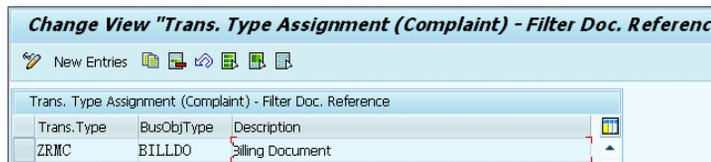

Figure 7.91 Assign Business Object Types to Transaction Types
- Assign the complaints business object type to the transaction type. You can do this by navigating to CUSTOMER RELATIONSHIP MANAGEMENT • TRANSACTIONS • SETTINGS FOR COMPLAINTS • INTEGRATION • TRANSACTION REFERENCING • ASSIGN BUSINESS OBJECT TYPES TO TRANSACTION TYPES (see Figure 7.91).